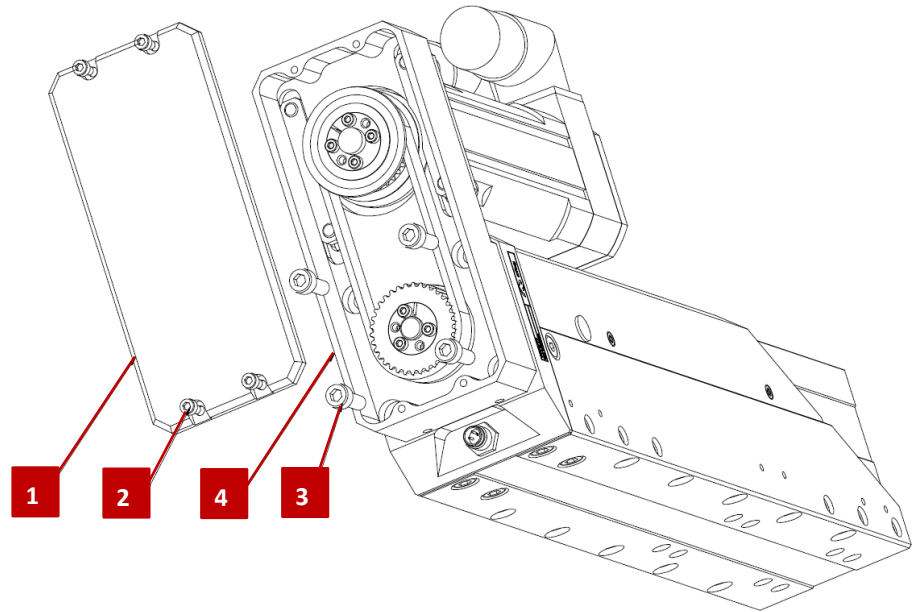

Fig. 7 Adjusting the motor position
2. Remove the screws M3x6 (Fig. 7, 2) and dismount the cover (Fig. 7, 1).
3. Loosen the 4 x screws M3x6 (Fig. 7, 3).
4. Rotate the housing (Fig. 7, 4) 90° to the left or right (swivel).
5. Tighten 4 x screws (Fig. 7, 3) M3x6 with a tightening torque of 1.4 Nm.
6. Mount and fasten the cover (Fig. 7, 1).